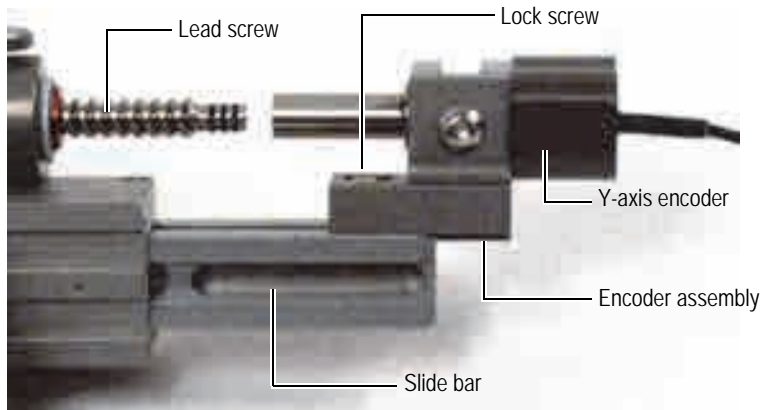

Figure 2-15 Installing or removing the y-axis encoder
2. Slide the y-axis encoder assembly out of the slide bar and off the lead screw. Expect some resistance because the coupling between the lead screw and the encoder is strong (see Figure 2-15 on page 36).
1. Slide the y-axis encoder assembly in the slide bar and onto the lead screw. Expect some resistance because the coupling between the lead screw and the encoder is strong (see Figure 2-15 on page 36).